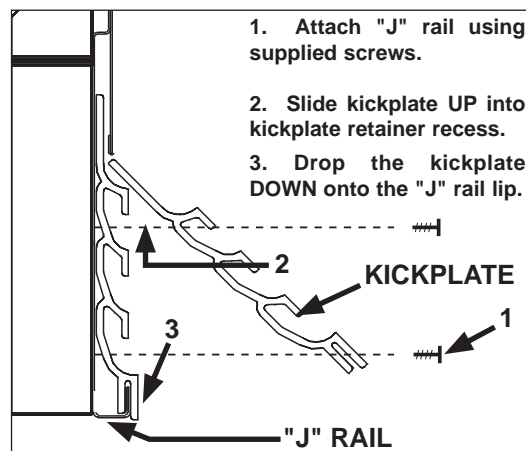

Fig. 4 "J" rail and kickplate installation
5. Attach the "J" rail with the supplied screws (Fig. 4).
6. Insert top of kickplate into the kickplate retainer. Slide the kickplate up into the retainer, then down onto the "J" rail (Fig. 4). Be certain that the bottom of the kickplate is fitted over extruding "lip" of the "J" rail.